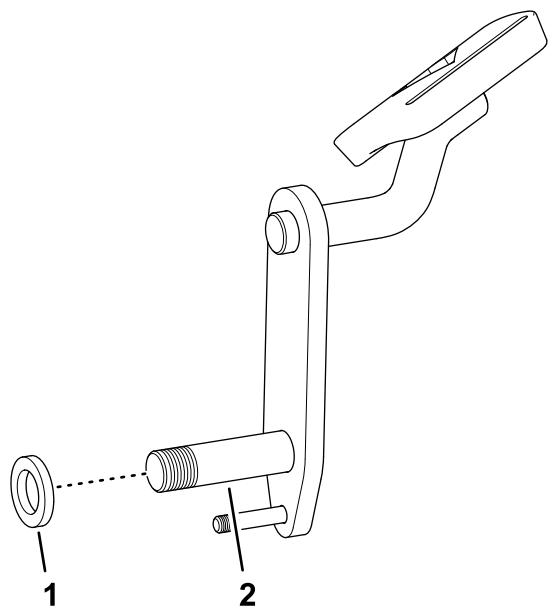

Figure 10
7. Assemble the spacer (5/8 x 1-1/16 inches) over the pivot shaft of the locking pedal (Figure 10).